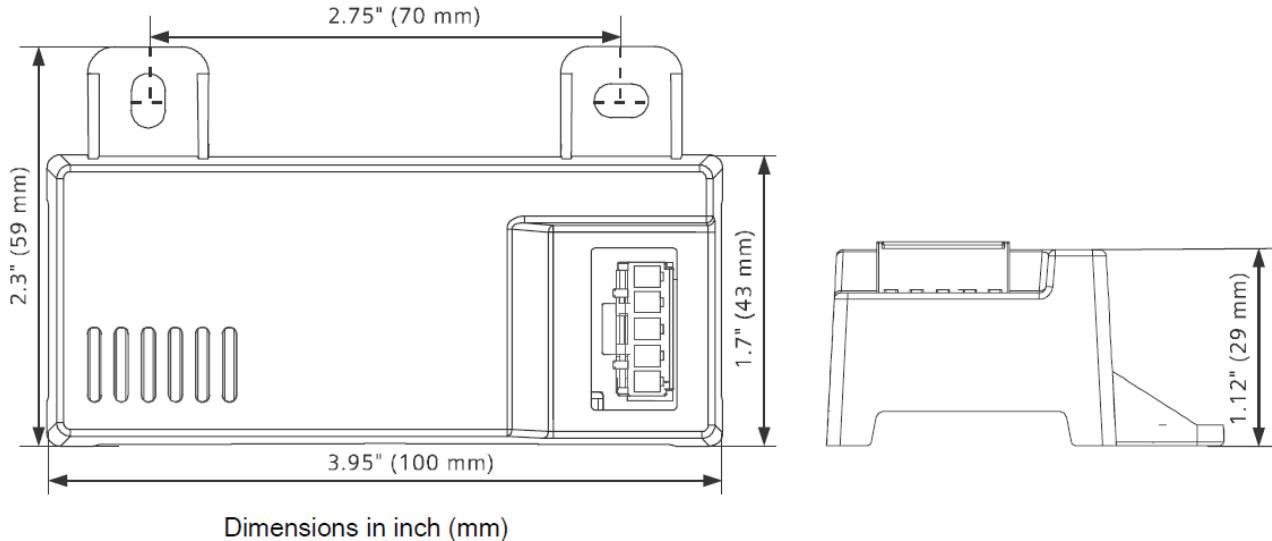
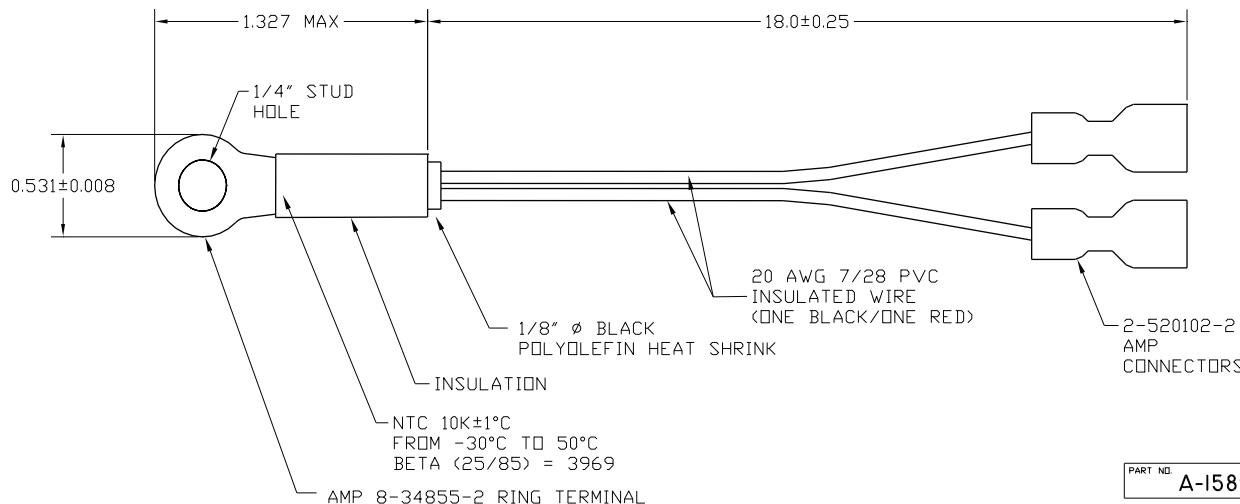
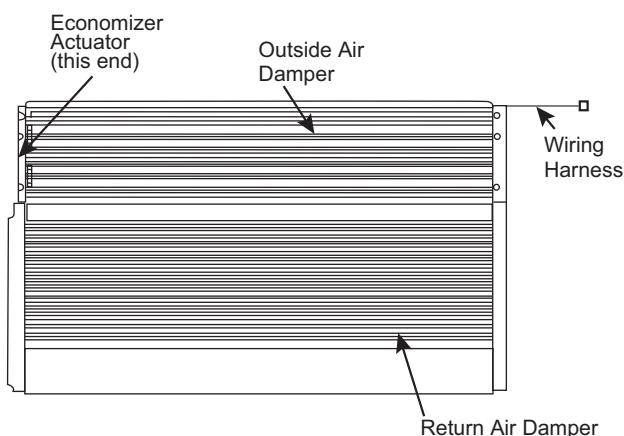

Fig. 74 — HH57LW001 Dimensional, Connection and Switching Information
Fig. 75 — HH79NZ039 Dry Bulb and Mixed Air Sensor Wiring
Fig. 76 — EconomizerONE System Component Locations
When using the HH57LW001 enthalpy sensor (see Fig. 74) for outside air changeover, the existing HH79NZ039 dry bulb sensor (see Fig. 75) must be removed. The enthalpy sensor will be mounted in the same location as the dry bulb sensor (see Fig. 76). When the enthalpy sensor's OA (Outside Air) temperature, enthalpy, and dew point are below their respective set points, outside air can be used for free cooling. When any of these are above their set point, free cooling will not be available. Enthalpy set points are configurable and create an enthalpy boundary according to the user's input. For additional details, see Fig. 77-78 and Table 23.
The optional enthalpy control sensor (P/N: HH57LW001) communicates with the POL224 economizer controller using the 5-wire harness, 48TC005213. The HH57LW001 sensor can be used as a single outside air enthalpy, a differential return enthalpy, or a differential return temperature sensor. Refer to the base unit control wiring diagrams found earlier in this book to wire the HH57LW001 enthalpy sensor for each option. See Fig. 74 and Table 25 on page 60 to locate the wiring terminals for each enthalpy control sensor.
Economizers are shipped standard with an HH79NZ039 outside air dry bulb sensor (refer to Fig. 75). System default setting (high temp limit) is 63°F (17°C) and has a range of 48°F to 80°F (9°C to 27°C). Sensor is factory installed on economizer.
If installing the optional HH57LW001 enthalpy sensor, the HH79NZ039 dry bulb outside air sensor must first be removed. Wire sensor to harness 48TC005213 and the (5) wires from the harness to the EconomizerONE harness in the return air chamber. Harness 48TC005213 has a 5-pin plug that connects directly to the HH57LW001 enthalpy sensor. Refer to the base unit control wiring diagrams earlier in this book for wiring connections. Refer to Fig. 74 and see Table 25.